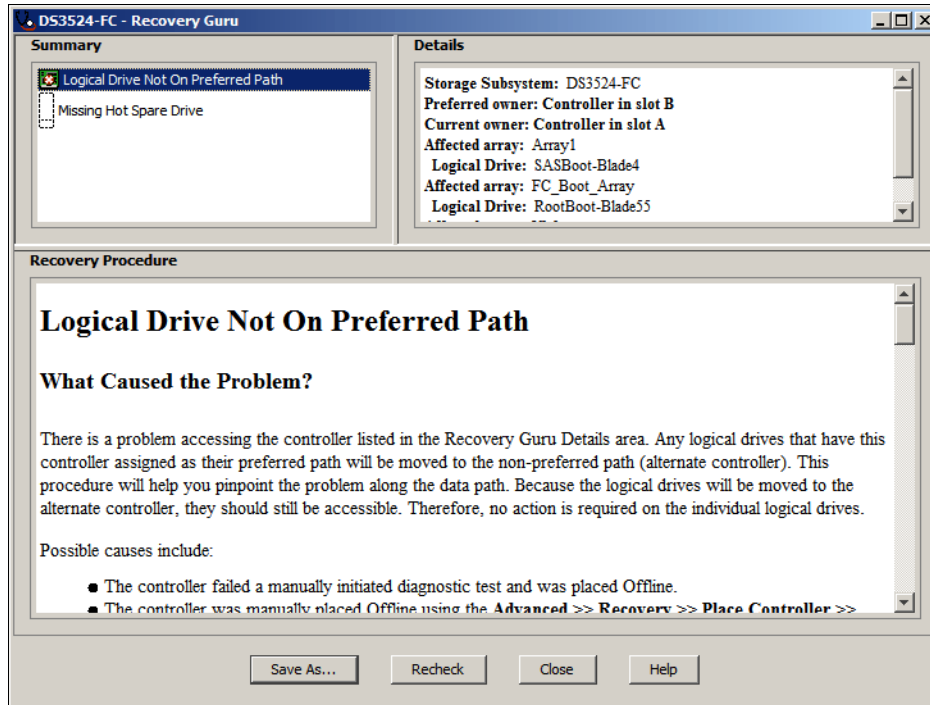

Figure 14-126 Recovery Guru
Click the **Recover from failure** link to launch the **Recovery Guru** as shown in Figure 14-126 on page 411.
- ▶ Summary pane: All detected problems are listed here. There are two separate problems listed in the example shown in Figure 14-126.